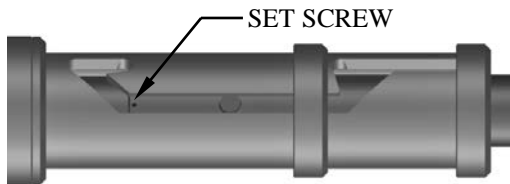

Fig. 6
L-2.17) Screw set screws (37) into J-pin bottom sub (23). Move J-body (20) as needed (Fig. 6).